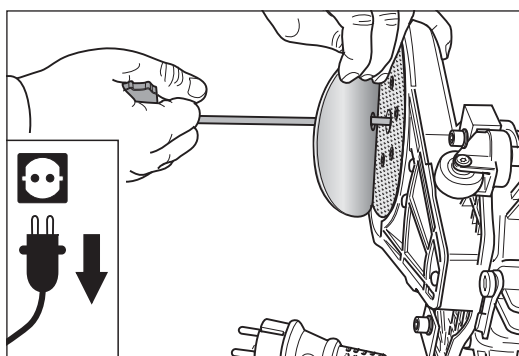

Fig. 15 Mount the new Velcro sanding disc in a centred position and press down.
- Place a new Velcro sanding disc on the sanding plate. The Velcro sanding disc must be positioned in the centre of the sanding plate. The hole in the centre of the sanding disc and the universal spanner make this step easier (fig. 15).